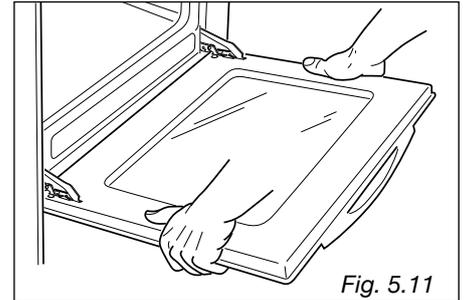
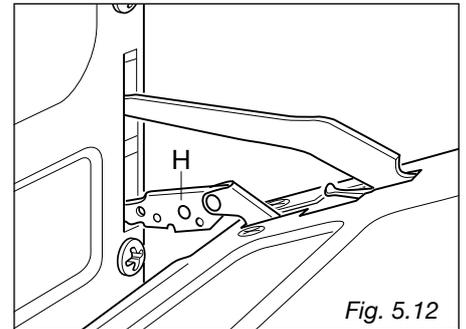

Fig. 5.11
Fig. 5.12
- Grip the door (as indicated in fig. 5.11) and, while closing it, release the two hinges as shown in fig. 5.12.
- Grip the door with your hands placed near the hinges and raise the levers "H" with your forefingers (fig. 5.12)